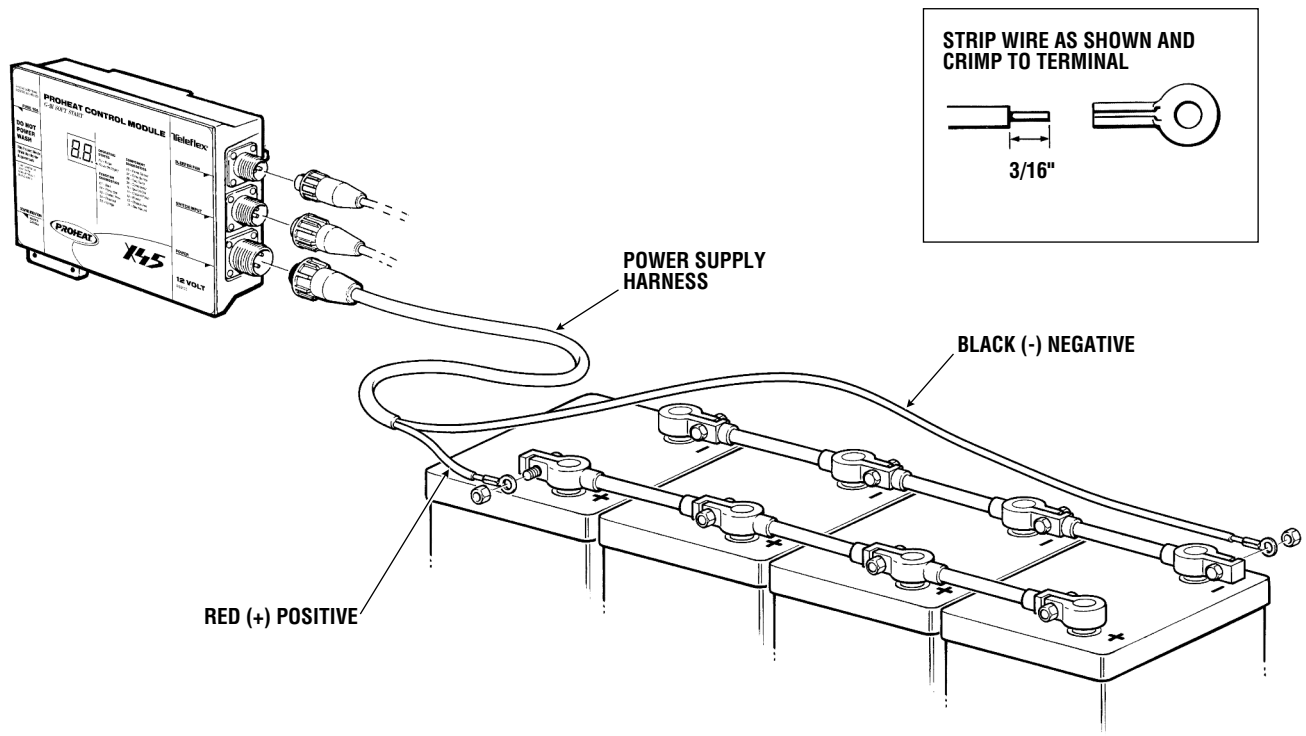

Figure 3-19 Power Connection to Battery
2. Strip outer wire jacket of harness back to expose the positive (red) and negative (black) leads. Strip the leads as shown and crimp the ring tongue terminals supplied to the wires. Connect the leads to the battery terminals. (See Figure 3-19.)
3. Leave power harness disconnected. (See Figure 3-19.) Do not install until PROHEAT coolant pump system has been purged of air. (See *First Time Startup*, page 3-26)